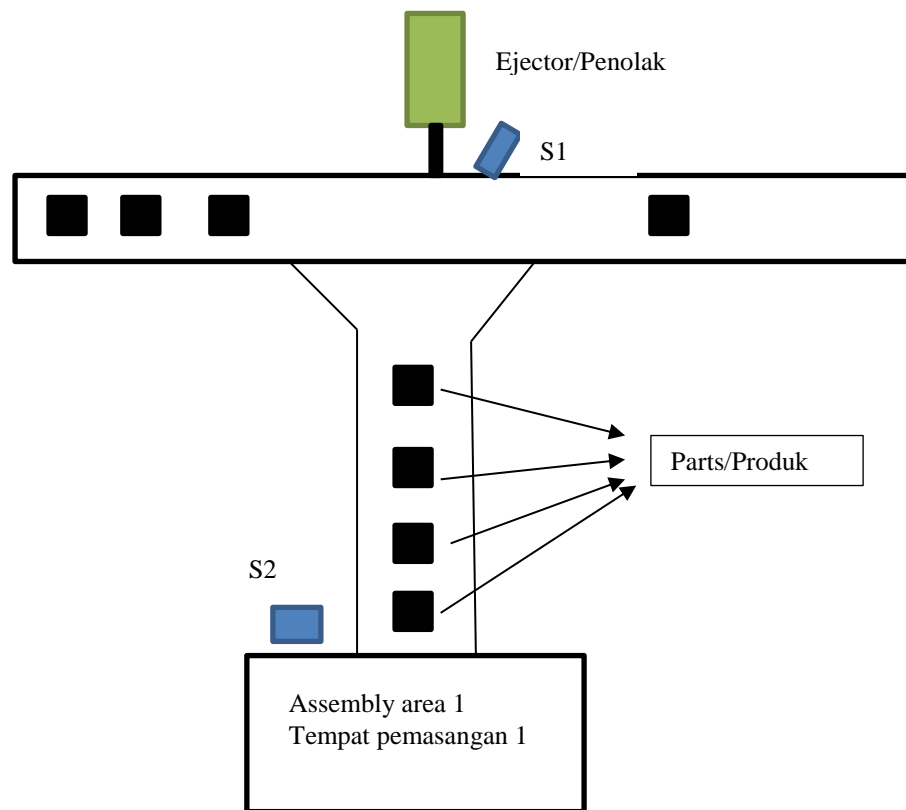

Figure 4
- (b) Design a ladder diagram to control the ejector in the conveyor system shown in Figure 4. The parts are travelling along the conveyor, sensor S1 is used to detect the part and the ejector will push the parts to the assembly area 1. Only 4 parts is to be pushed to assembly area 1. If the parts reach 4, the ejector will pass the parts, until the parts on the conveyor 2 are less than 4. Sensor S2 is to detect the parts leaving the place.